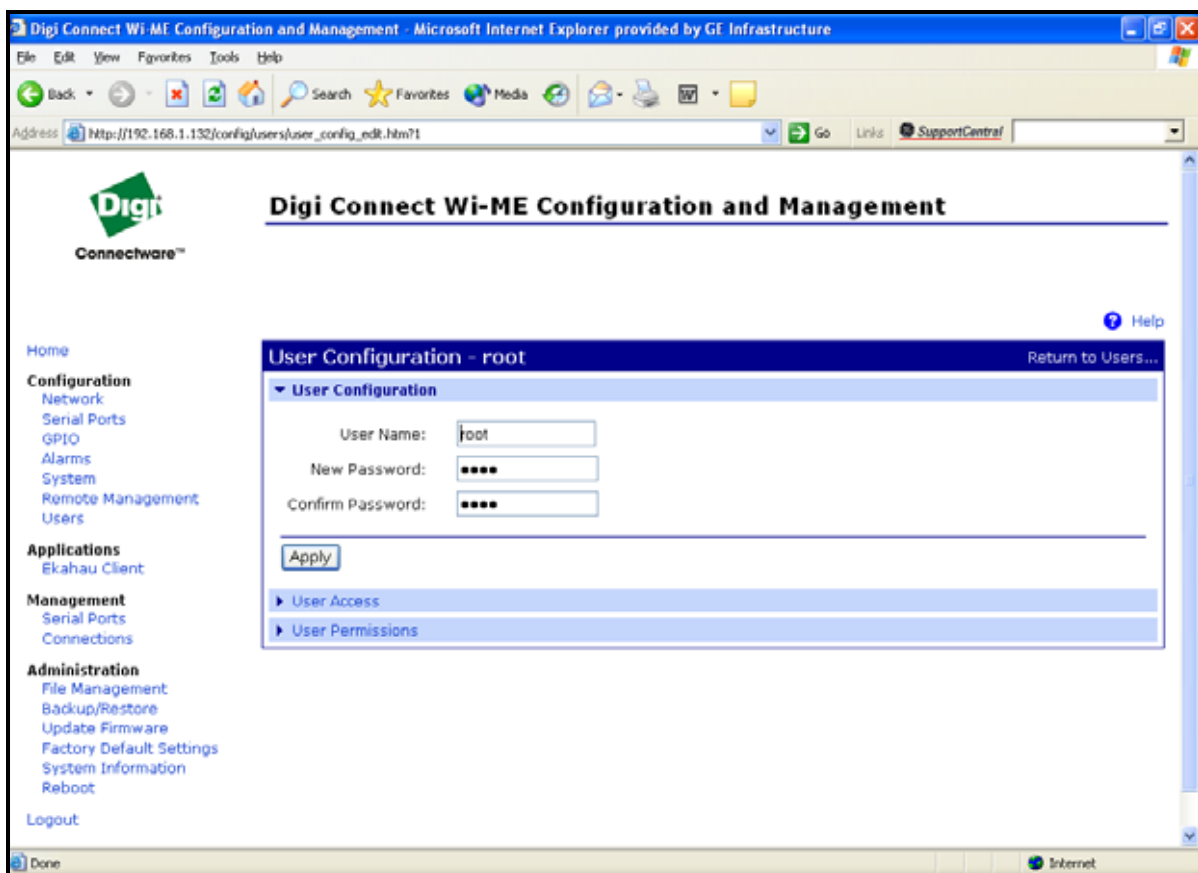

Figure 34: Changing the User Name and/or Password
5. Click on **New....** Figure 34 on page 50 appears.